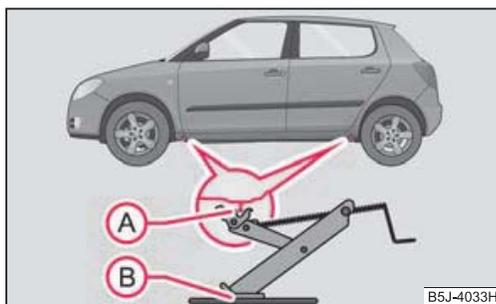

Fig. 156 Changing a wheel: Jacking points for positioning lifting jack
- Position the lifting jack by selecting the jacking point - engraving in the lower sill - which is closest to the wheel to be removed ⇒ fig. 156.
- Align the lifting jack so that its claw grasps the vertical web on the engraving of the lower sill (A) and the bottom base plate of the lifting jack (B) is resting flat with its complete surface against firm ground.